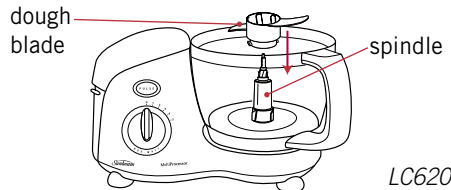

Fig 9
2. Fit the dough blade over the spindle and press firmly into place, see Figure 9.